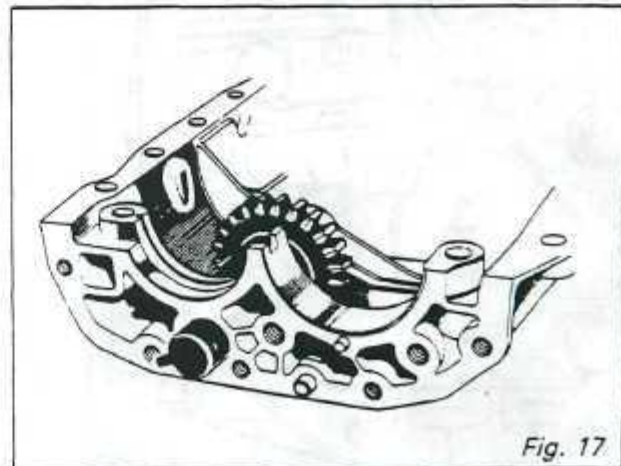

Fig. 17
11. Insert the 3mm thick washer, the reverse gear and the 5mm thick washer into the half-case. Fit the reverse shaft in the case, washer, gear and washer. (Fig. 17)